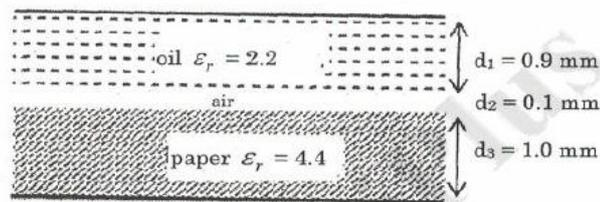

Figure. 1
12. (a) A certain dielectric can be considered to be represented by the equivalent circuit shown in figure 1. What is the maximum voltage that can be applied across the dielectric, if partial discharges in air to be avoided? State any assumptions made.